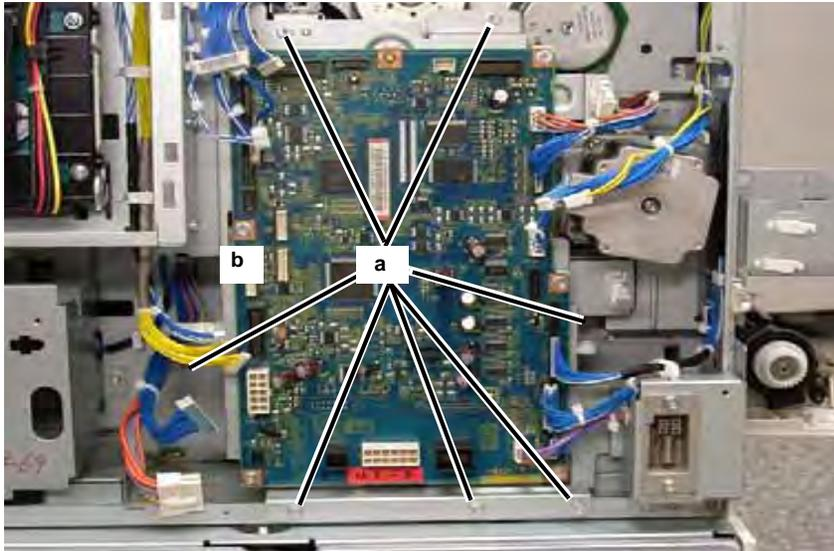

Figure 4 Removing Screws
6. Perform the following (Figure 4).
- a. Remove the MCU PWB Bracket Screws (7)